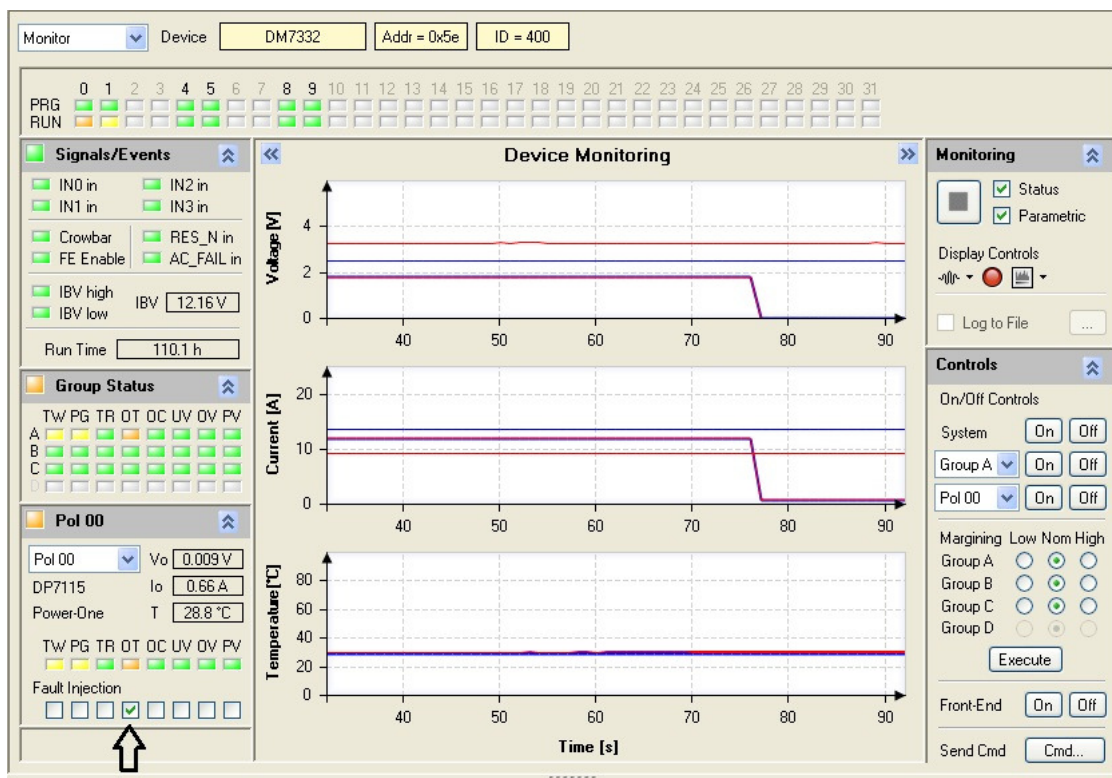

Figure 49. Example Overtemp Fault Injection in the GUI
In Figure 49 we see the effects of injecting an Overtemp (OT) fault. Note that dPOL-0 shows an OT fault. dPOL-0 and -1 are in the same Group and fault propagation for the dPOL is to propagate to the group. dPOL -4 and above are in Groups B and C. Propagation is not enabled from Group A to B.